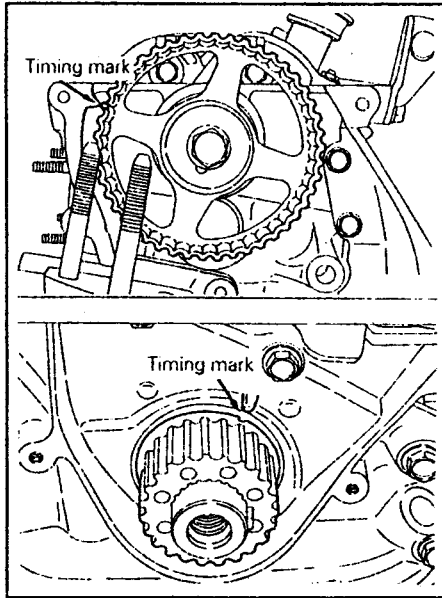

Fig. 1.63. — Close-up of the camshaft sprocket and crankshaft sprocket alignment.
- Rotate the crankshaft by complete turns in the direction of rotation (clockwise) and check that both sets of timing marks are aligned. The crankshaft must be turned clockwise. Check that all sprocket teeth are properly engaged with the belt teeth. The close-up views of Fig. 1.63 will help.